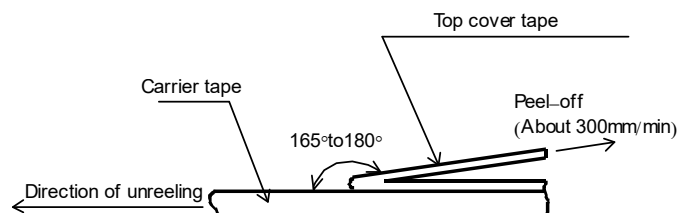
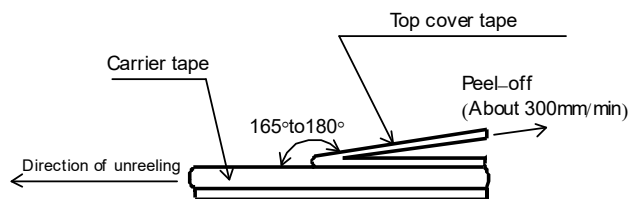
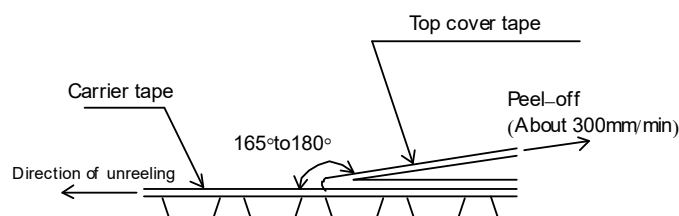

Figure-7
Figure-8
Figure-9
- 5). The peel strength of the top cover tape shall be within 0.1N to 0.5N on the test method as shown in the following RMC06: Figure-7, RMC10, 16, 20, 32: Figure-8, RMC35: Figure-9.